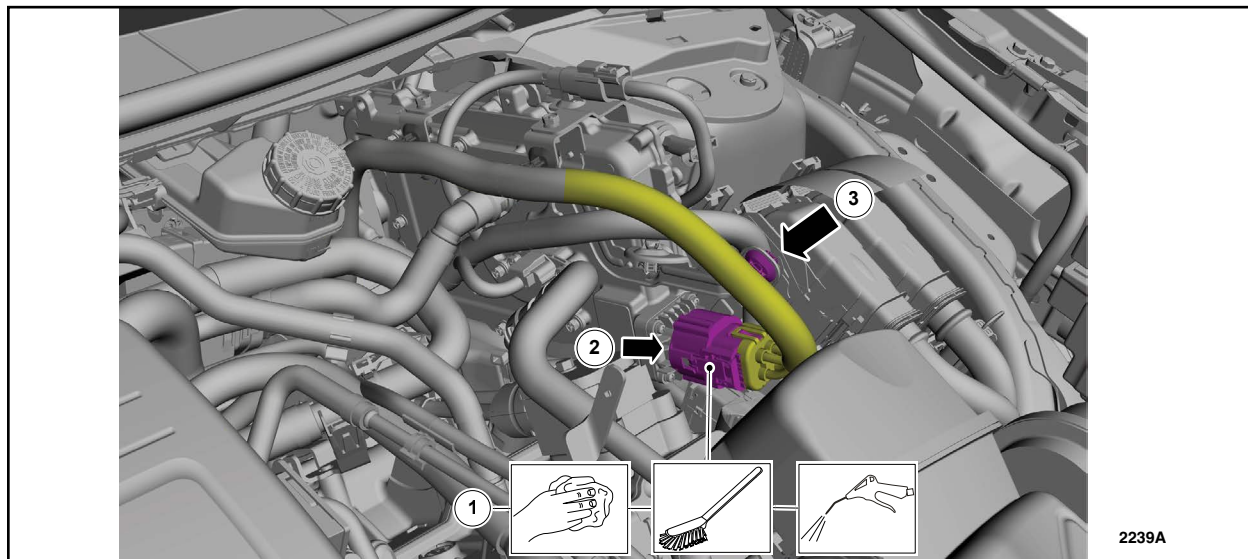

FIGURE 1
4. Disconnect the high voltage battery electrical connector from the Direct Current/Direct Current (DC/DC) Converter Control Module. See Figure 1.
5. Detach the retainer and position the wire harness aside. See Figure 1.